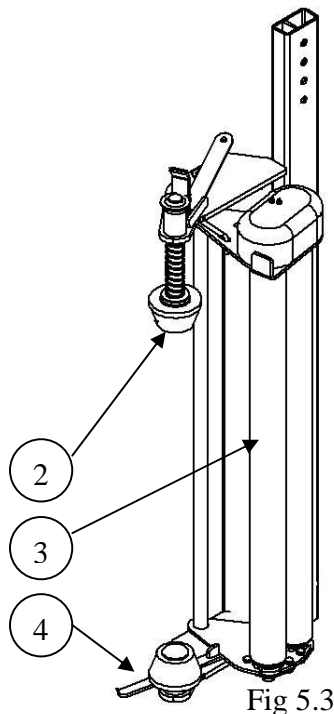
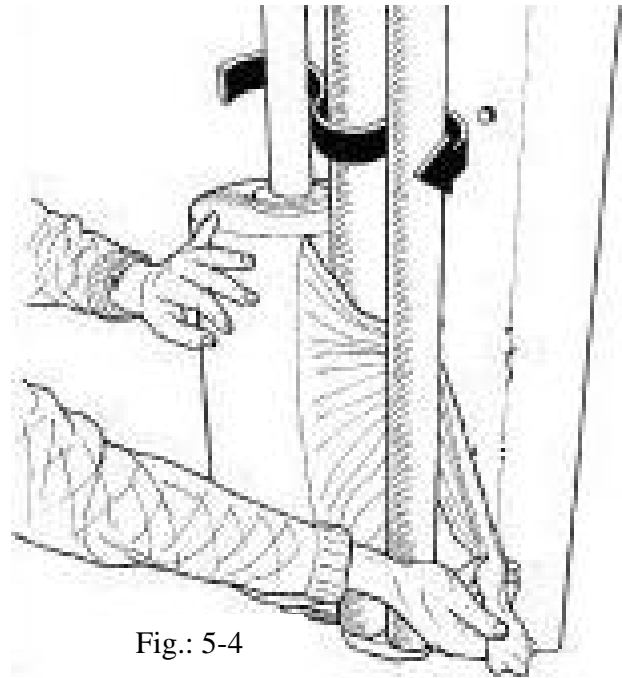

Fig 5.3
Fig.: 5-4
When loading a plastic roll, first ensure the top cone (2) (See Fig 5.3) is pushed up to latched position, then push back the Stretch rollers (3) until held in position by locking catch (4).
- Place the Roll on the Bottom Cone and release the top latch (1). Beware of Fingers!
- Pull the film between the rollers on the pre-stretcher in the direction of the arrow. (See fig. 5-4). (See also the sticker on the dispenser)